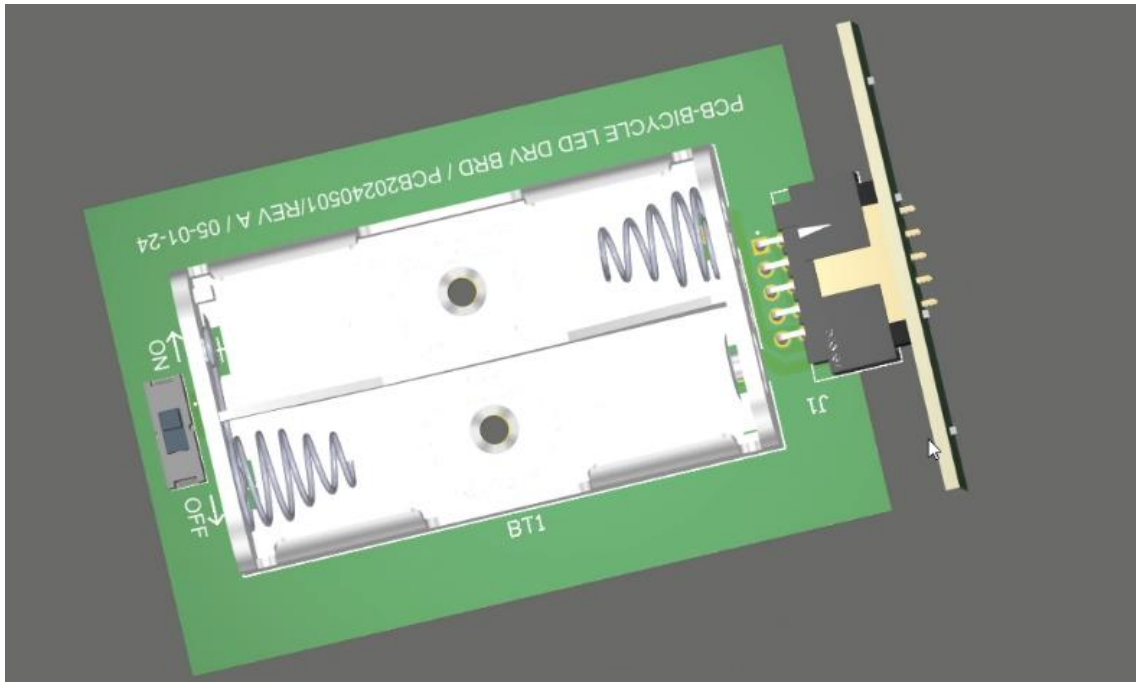

Figure 36. Isometric View showing results of proper mating of boards
70. Move the assembled boards in such a way that you can evaluate the insertion of the smaller board connector to that of the larger board, Figure 36.